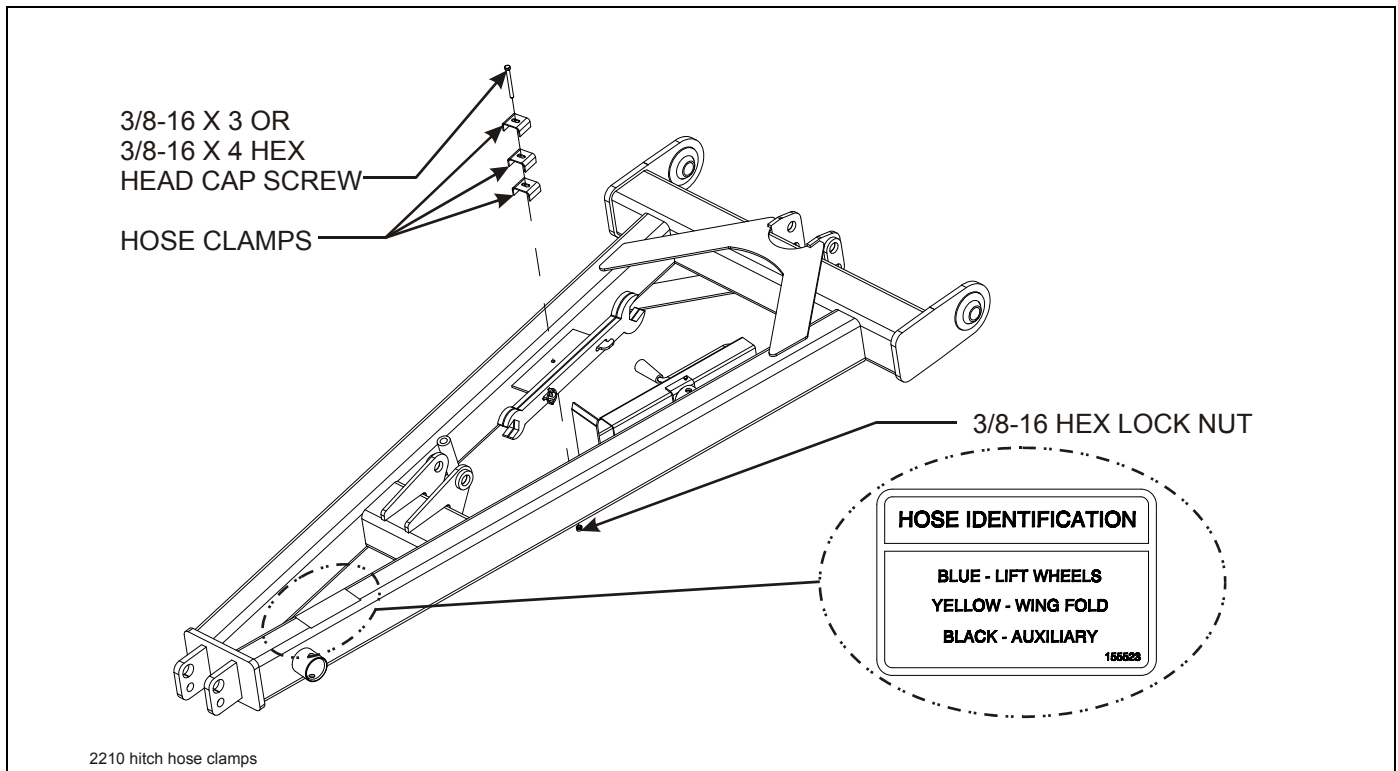

Figure 3-22: Hitch Hose Clamps and Color Designation
5. Hold each system of hoses in place using 3/8-16 x 3 (2211-09 and -11 models) or 3/8-16 x 4 (2211-13 and -15 models) hex head cap screw, hose clamps, and hex lock nut (**See Figure 3-22.**)
7. Install hose wraps around system hoses per hose identification decal near hose couplers, putting both hoses inside wrap (**See Figure 3-22.**) Note that no yellow hose wrap is used on rigid models.